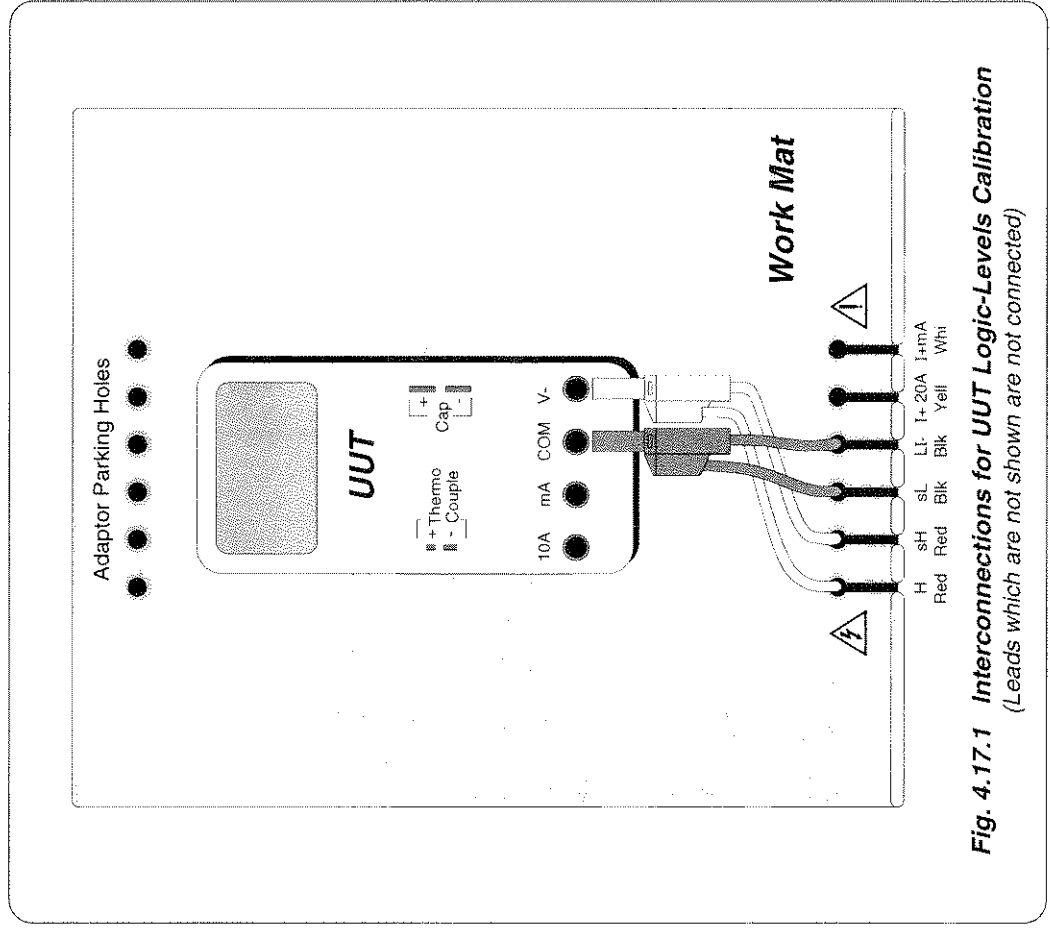

Fig. 4.17.1 Interconnections for UUT Logic-Levels Calibration
The general connection scheme for UUT calibration is illustrated in Fig. 4.17.1. For UUTs without *safety* banana sockets, use appropriate adaptors.
1. **Connections** Connect the 9100 to the UUT as shown in *Fig. 4.17.1*, and ensure that both instruments are powered ON and warmed up.